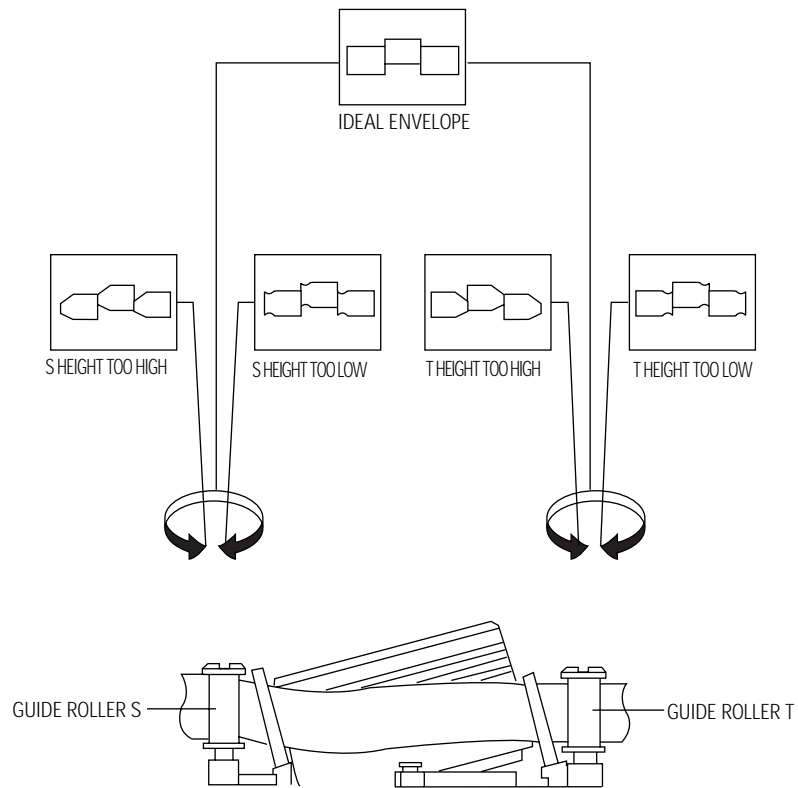

Fig. 4-13 Guide Roller S, T Height Adjustment
- 8) Turn the guide roller heads with a flat head () driver to obtain a flat video RF envelope as shown in Fig. 4-13.